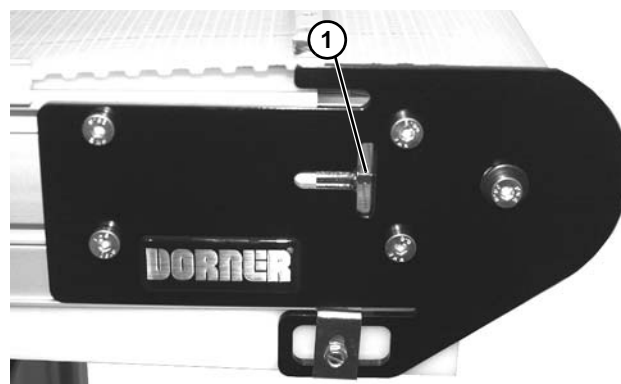

Figure 9
<p>For Conveyors longer than 20 ft (6096 mm) use the process outlined in the “Conveyor Belt Tensioning” section on page 14. Extend the Drive End Tail Assembly to the zero mark of the tension indicator (Figure 9, item 1) before proceeding to step 5. The zero mark for the tension indicator is when the indicator begins to turn black.</p>